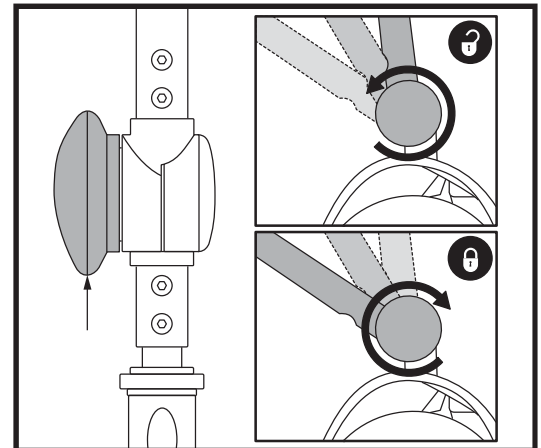

Figure 22. Tiller Adjustment Knob
## TILLER ANGLE ADJUSTMENT (See figure 22)
1. With the seat and battery pack removed (see Disassembly Procedures on previous page), lower the tiller and tighten the tiller adjustment knob. See **figure 22**.